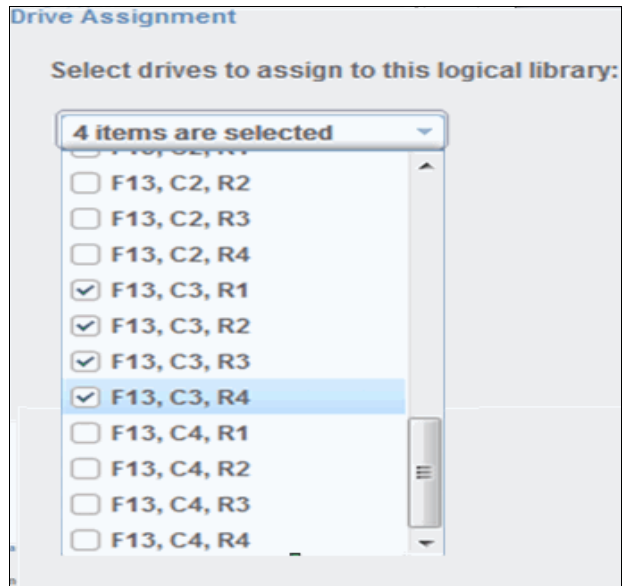

Figure 4-146 Custom drive settings
- Use the Drive Assignment page to configure drives for the LL, as shown in Figure 4-146. You can select all unassigned drives or select only the drives that you need. Only the unassigned drives of the type that was selected (LTO or 3592) are displayed.